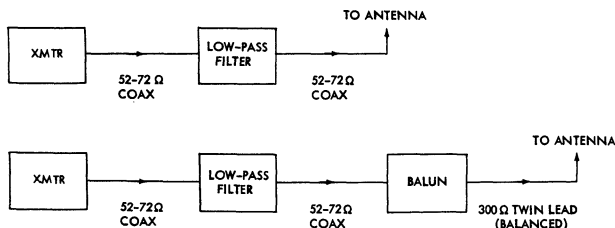

Fig. 1
2. Connect the antenna feed line co-axial cable to the RF output co-axial receptacle on the rear chassis apron. An Amphenol 83-1SP type or equivalent male connector is required for this connection. If a single wire or twin lead is employed, attach a banana plug to the end of the single wire or one conductor of the twin lead and insert it in the center hole of the receptacle. (The remaining conductor of the twin lead should be connected to the adjacent ground binding post.) In areas where interference with TV reception is a difficulty, it is recommended that a low-pass filter and possibly an antenna coupler be inserted between the RF transmitter and the antenna feed line. A short length of co-axial cable should be used to connect the transmitter RF output to the input end of the filter and the antenna feed line co-ax should be connected to the output of the filter. A balanced type of feed line (300Ω, 600Ω, etc.) requires an antenna coupler or balun matching device for proper connection to the transmitter or low-pass filter. (See Fig. 1.) For satisfactory use of a low-pass filter, a low SWR is necessary.